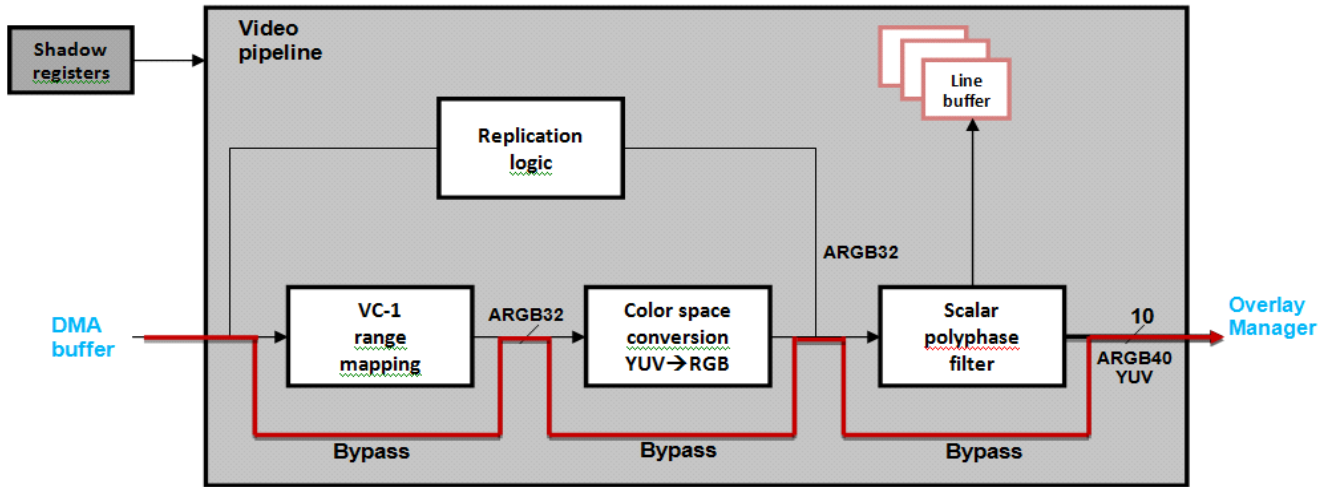
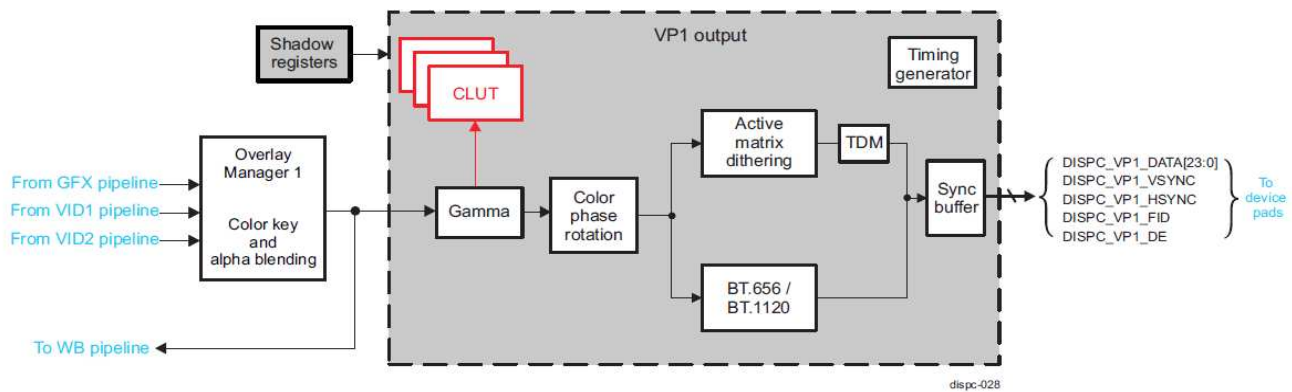

Figure 1. DSS Video Pipeline Block Diagram
Figure 2. DSS Overlay and Video Port Block Diagram
The display controller mainly consists of DMA Engine, Video Pipelines (VID/GFX), Overlay Managers (OVLY), and Video Ports (VP). Figure 1 and Figure 2 show the different processing blocks present in the Video Pipeline and the Overlay, respectively. The DMA Engine supplies data from system memory to Video Pipeline. The Video Pipeline processes the data coming from the DMA Engine and outputs to the Overlay. The Overlay can manage/blend output from multiple pipelines, after processing sends out on the video port which is a 24-bit parallel video data interface.
Each of the processing blocks present in the video pipelines has a bypass path (see Figure 1), which can be selected to send the data unaltered by the video pipeline. Input data format of the video pipeline should be configured as RGB24-888. Also input line offset/pitch requires to be 3-byte aligned. VC-1 range mapping and CSC blocks of the video pipelines (see Figure 1) will be bypassed by default for this format. Input and output width and height of the video pipeline should be configured to same values to bypass the scaling block.
Each of the processing blocks present in the Overlay and Video Port (see Figure 2) can be bypassed to send the data unaltered.